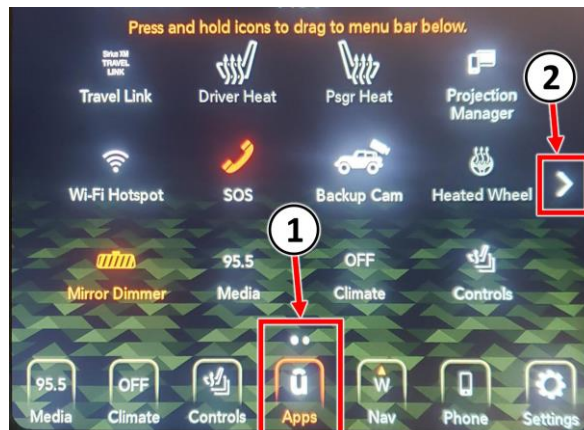

Figure 1 – Apps Display Screen
1. Select “Apps” then “Hybrid Electric” on the display (Figure 1).
2. Scroll through screens until locating the “Hybrid Electric” app. (Figures 1 and 2).